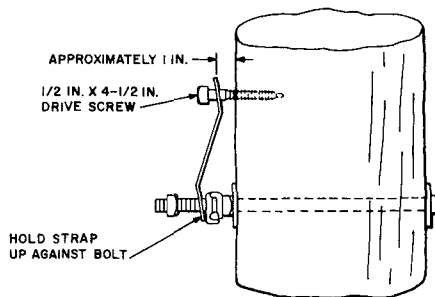

Fig. 8—Installing Reinforcing Strap Using Drive Screw
- (2) Use the top hole as a guide, drill a 5/16-inch lead hole 2 1/2-inch deep, and drive in the drive screw. The installation at this point is illustrated in Fig. 8.